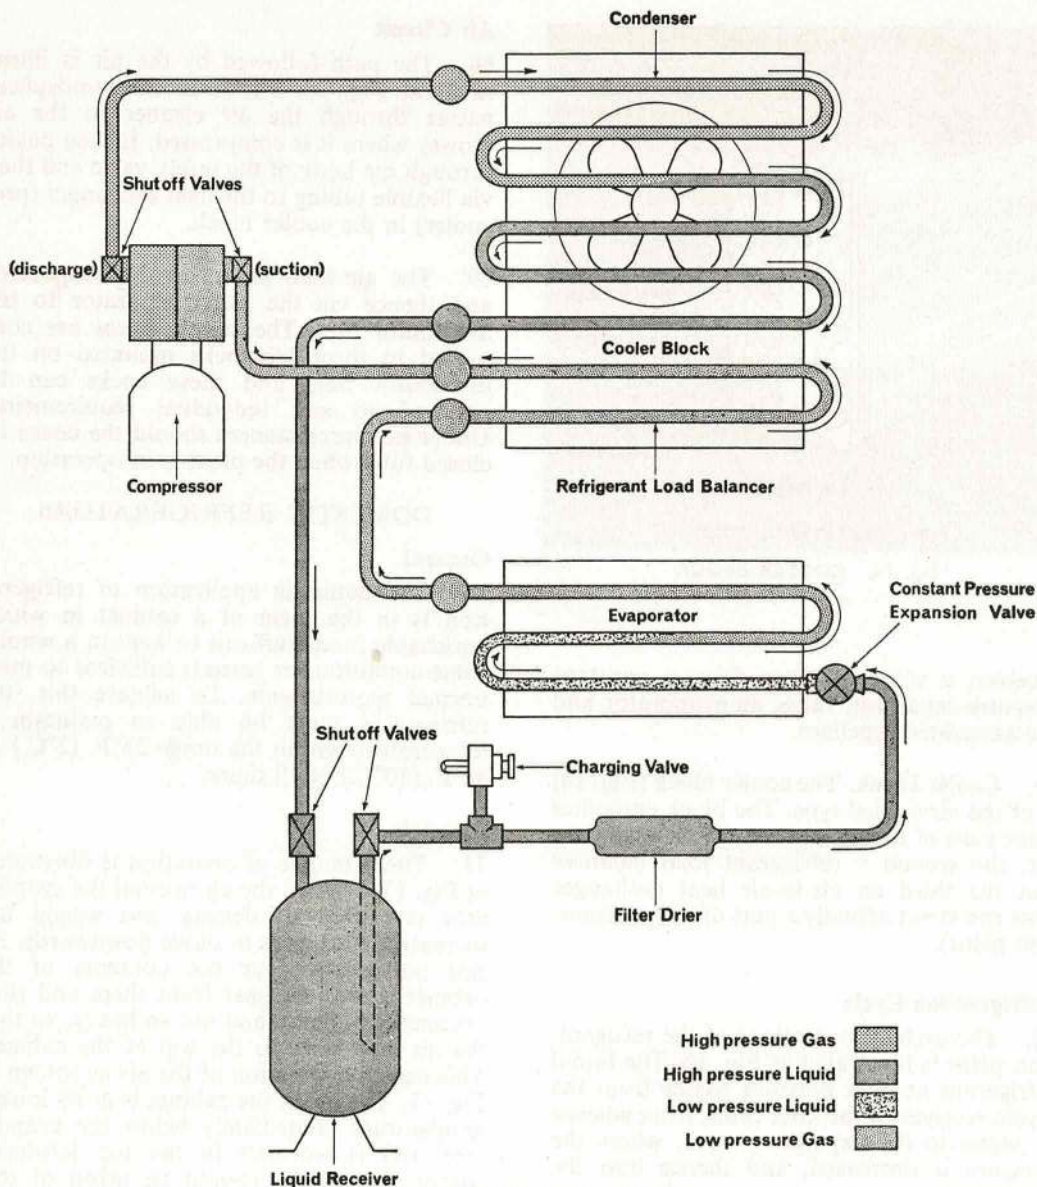

Fig. 15. REFRIGERATION CYCLE
66. The cycle of operations of the refrigeration plant is illustrated at Fig. 15. The liquid refrigerant at high pressure passes from the liquid receiver to the filter drier, from whence it passes to the expansion valve, where the pressure is decreased, and thence into the evaporator.